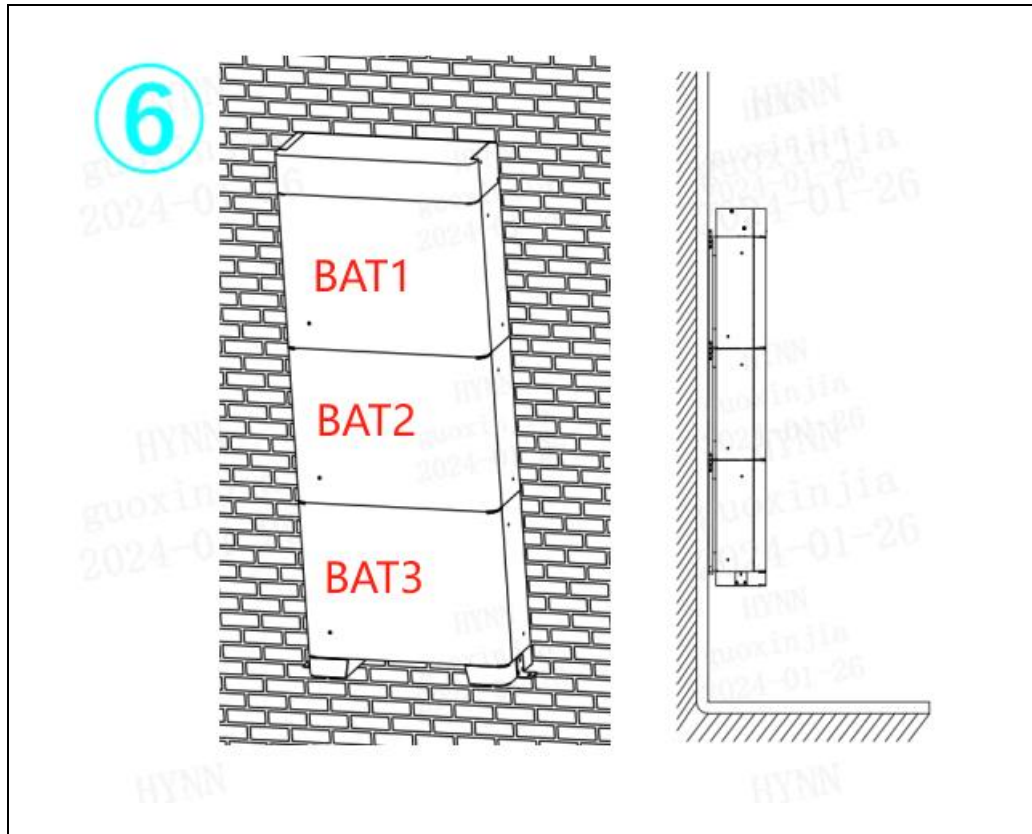

FIGURE 4.3: STEP6
- Step 6: The installation is complete, as shown in Figure 4.3.